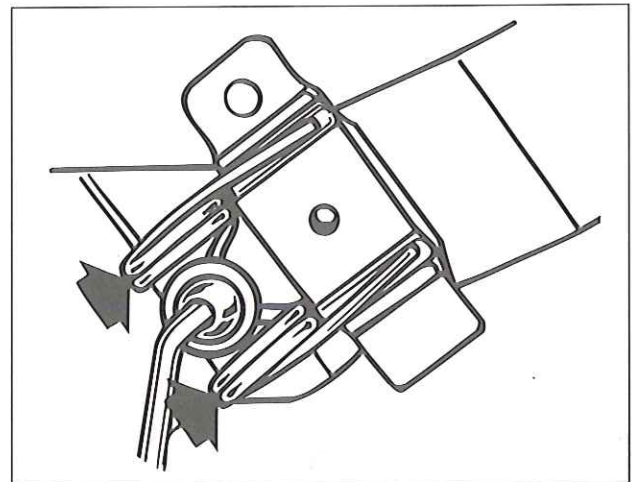

FIG. 58
7. Install the slave piston assembly torsion spring with the ends over the bridge (see Fig. 58).